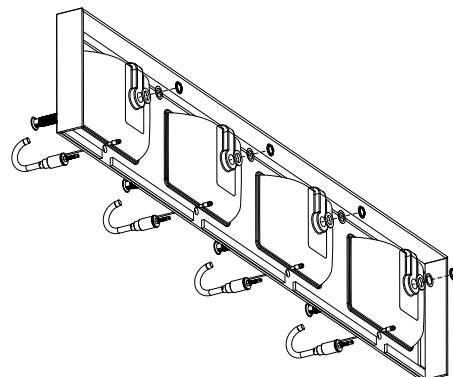

Figure 3
3. Install faucet and grid strainer (Figure 3) onto sink according to manufacturer's instructions.